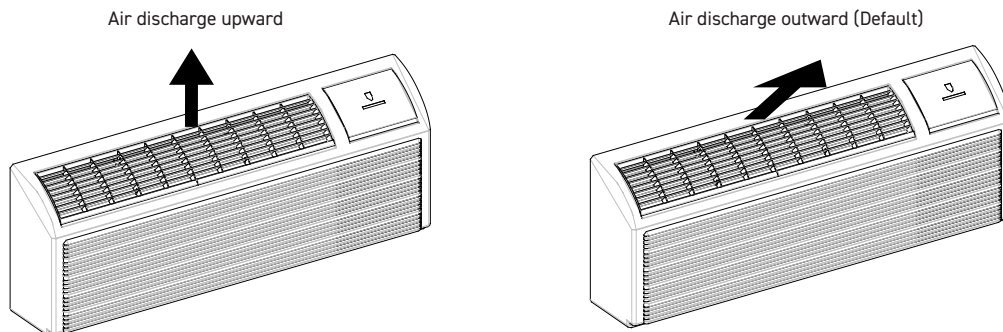

Figure J.2.3 (Adjusting Louvers)
3. Turn louver insert and rotate 180° See Fig. J.2.3